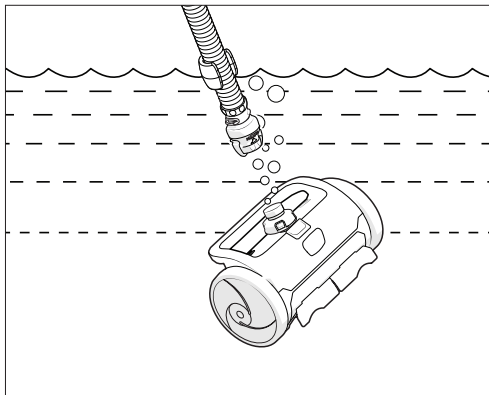

Figure 5. Connect Hose and Submerge Cleaner
1. Submerge the hose and flood with water (no bubbles visible) (Figure 5).